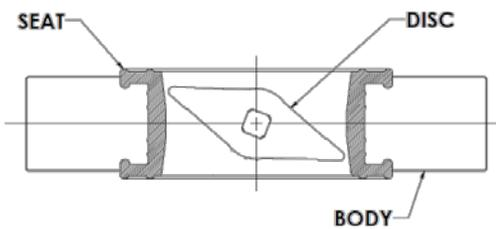

Figure 1
1. The disc is set in the slightly open position (see figure 1)\* to prevent the butterfly valve seat from taking a temporary set. If the valve is opened or closed after unpacking, it must be reset to this slightly open position before installation.
1. Install valve between flanges with the valve slightly open, refer to figure 1